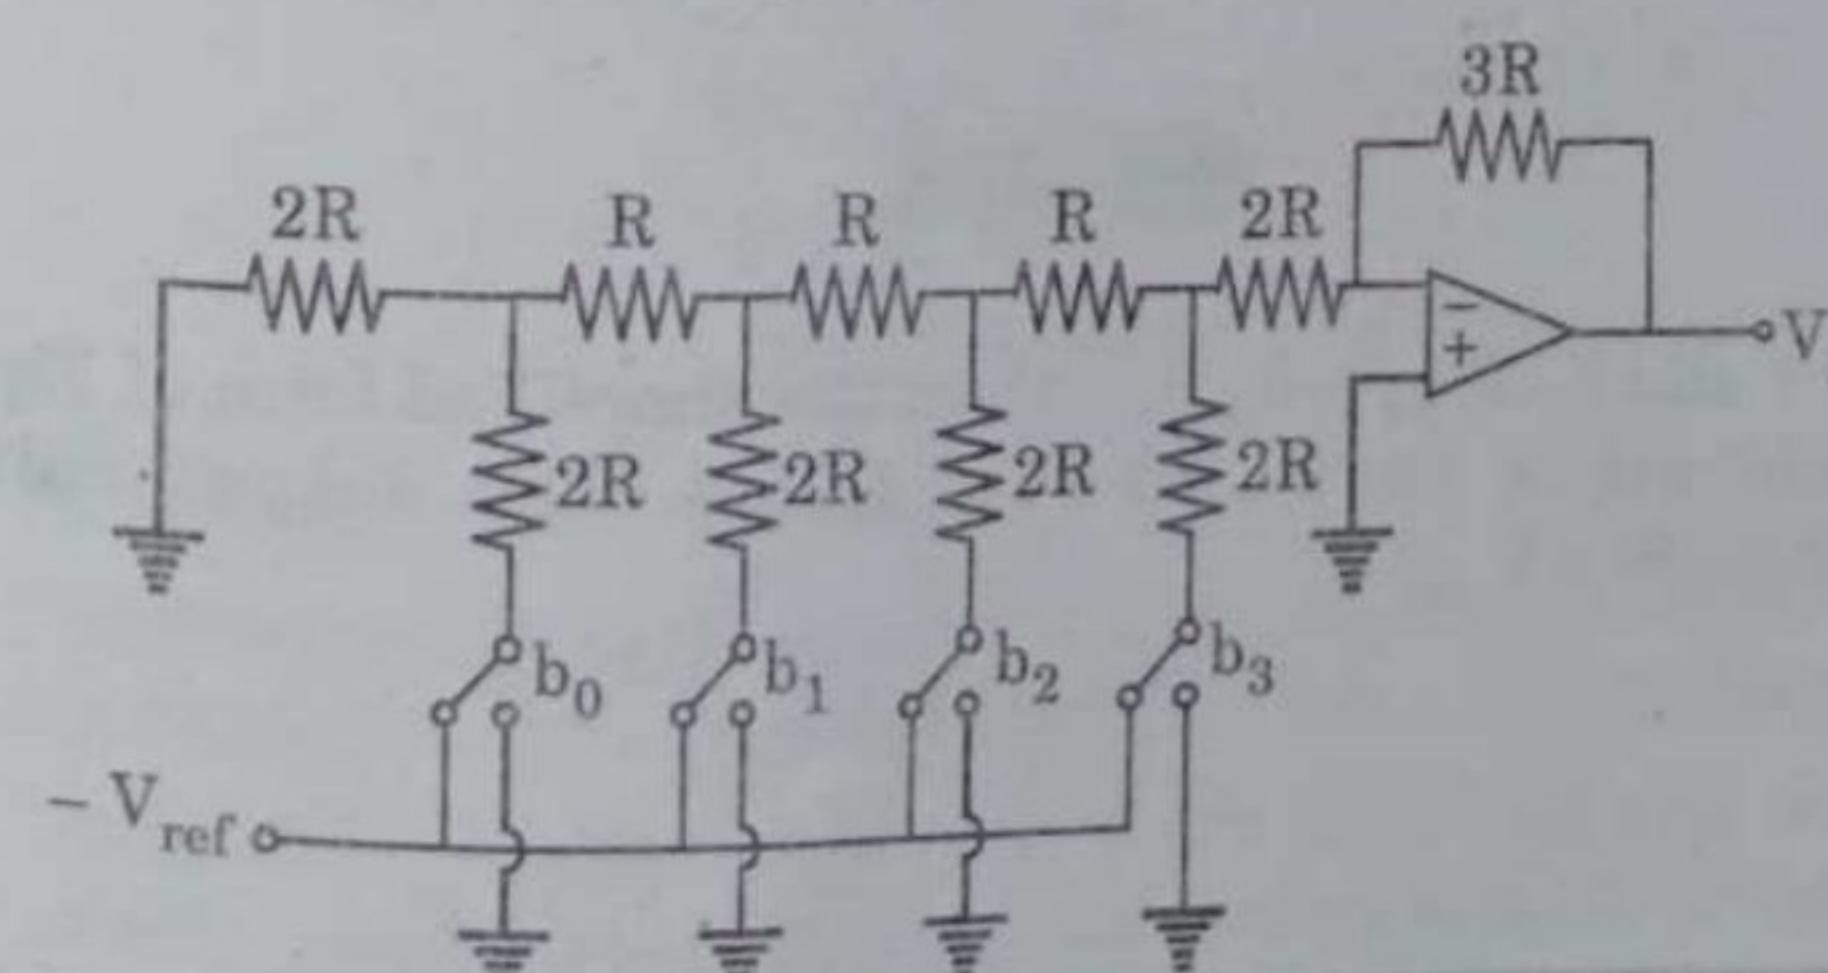
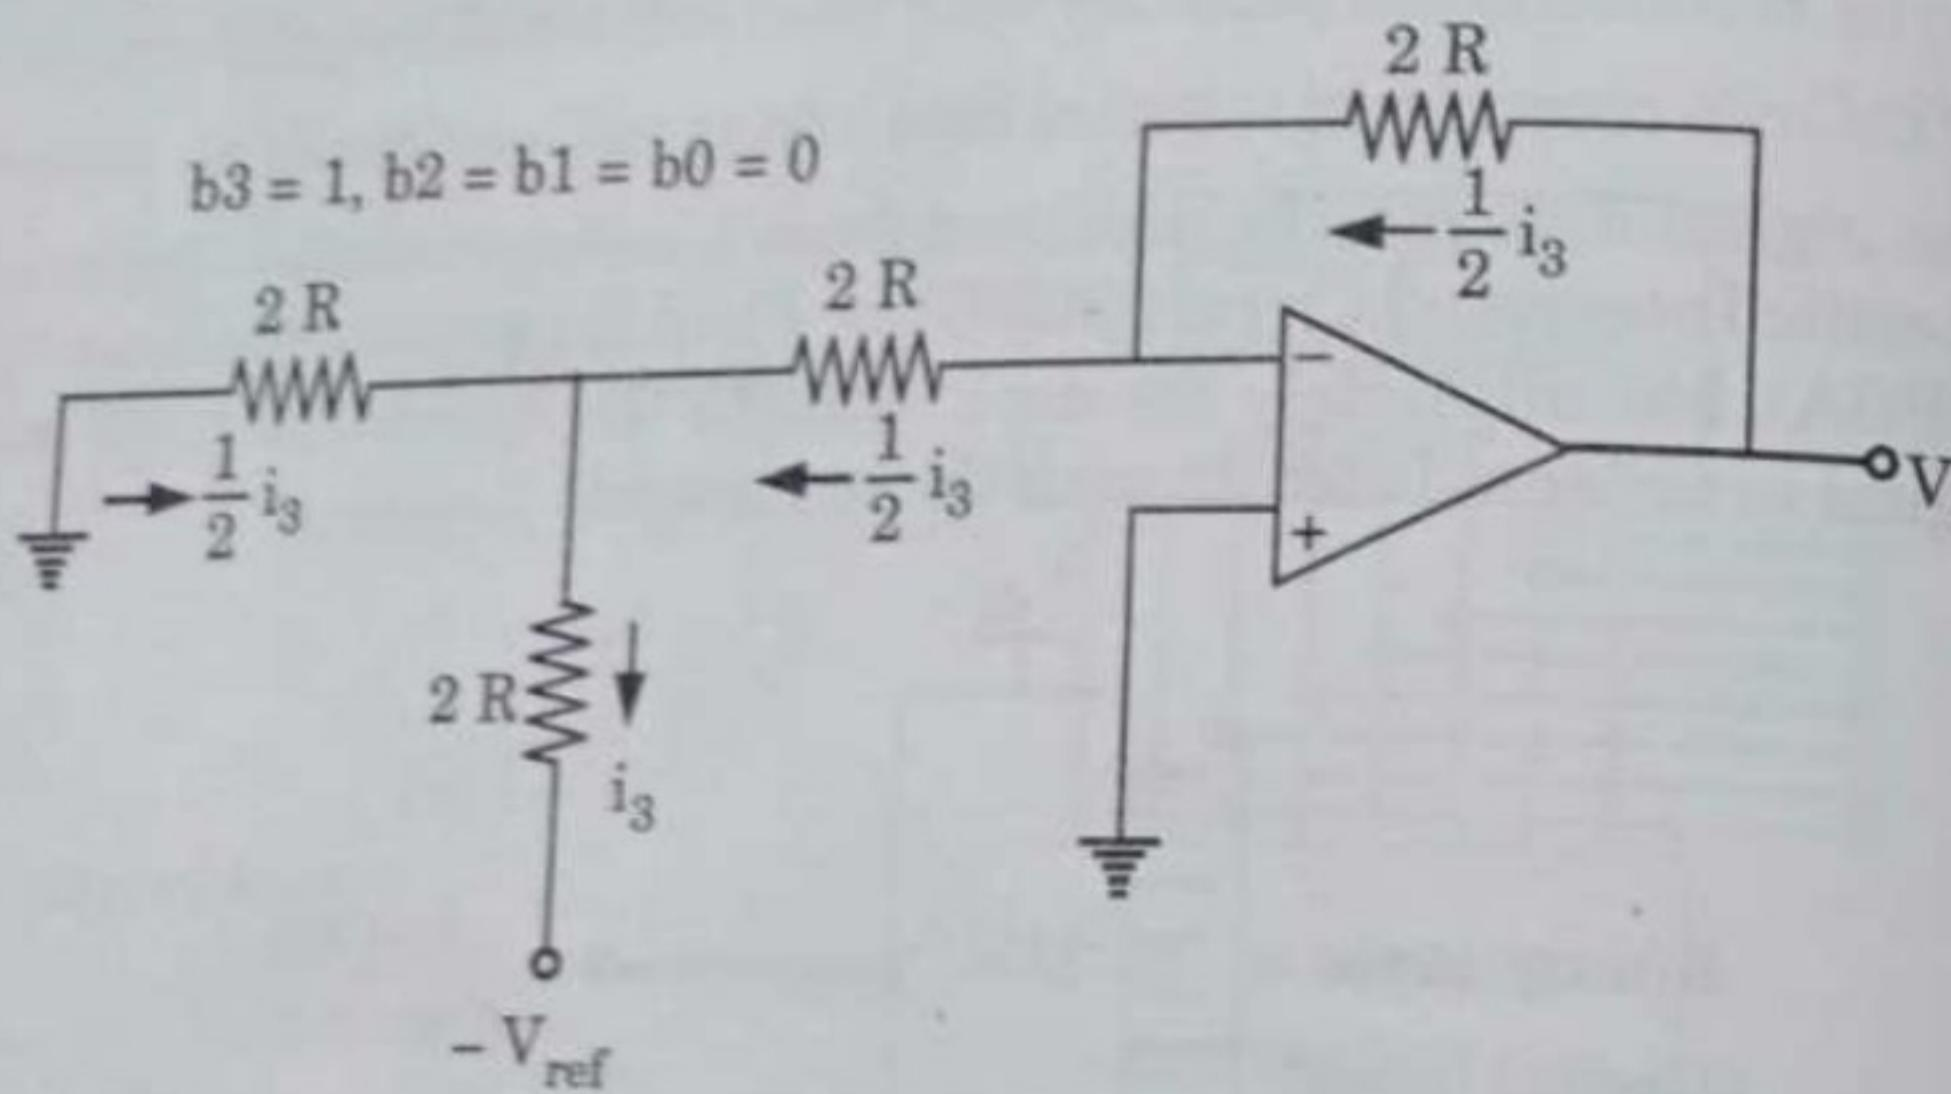

Fig. 4.15.1. 4-bit D/A converter using an R-2R ladder circuit.
Fig. 4.15.2.
3. Fig. 4.15.1 shows the 4-bit R-2R ladder DAC. In order to achieve high-level accuracy, we have chosen the resistor values as R and $2R$.
4. Let the binary value $b_3 b_2 b_1 b_0$, if $b_3 = 1, b_2 = b_1 = b_0 = 0$, then the simplified form of Fig. 4.15.1 DAC circuit is shown in Fig. 4.15.2. The output voltage is $V_o = 3R(i_3/2) = V_{ref}/2$.